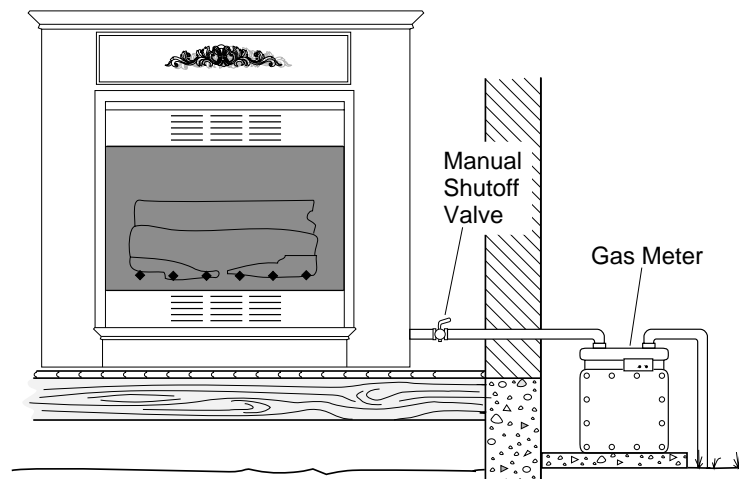

Figure 24 - Checking Gas Joints (Shown With Optional Mantel)
3. Check all joints from gas meter to manual shutoff valve (see Figure 24). Apply mixture of liquid soap and water to gas joints. Bubbles forming show a leak.
4. Check all joints from manual shutoff valve to thermostat gas valve (see Figure 24). Apply mixture of liquid soap and water to gas joints. Bubbles forming show a leak.